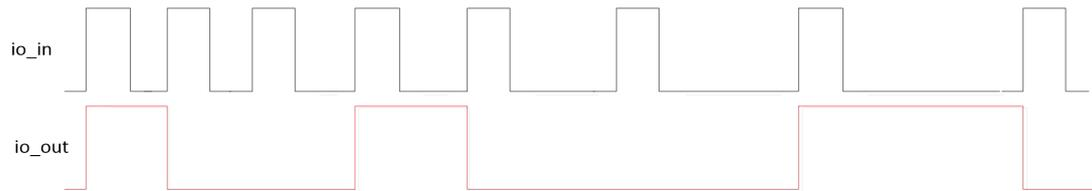

Figure 24 Non-uniform cycles
- When io_in is a non-uniform period distribution, io_out is a non-equal duty waveform after odd frequency division, as shown in Fig. 24.